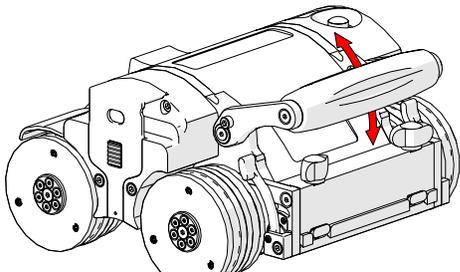

Fig. 94 - Pivot handle as desired
2. Pivot the handle as required (Fig. 94).